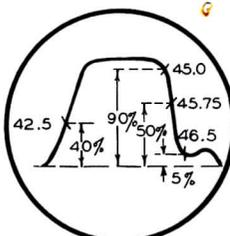

FIG. 4
7. Check all UHF channels for response similar to Fig. 4. If generators and bias supplies.